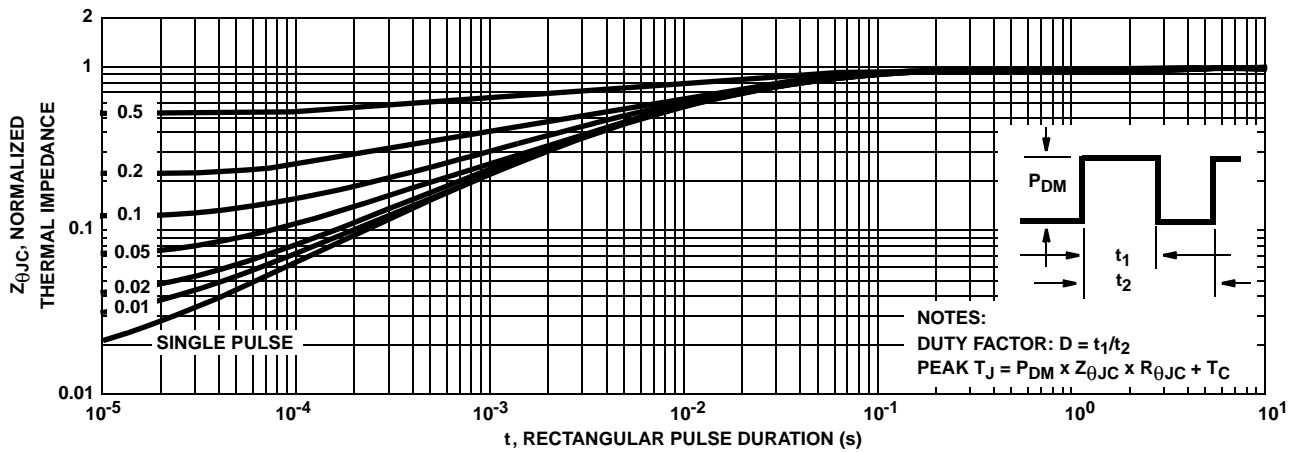

FIGURE 3. NORMALIZED MAXIMUM TRANSIENT THERMAL IMPEDANCE
- Repetitive Rating: Pulse Width limited by max junction temperature. See Transient Thermal Impedance Curve (Figure 3) and Peak Current Capability Curve (Figure 5).